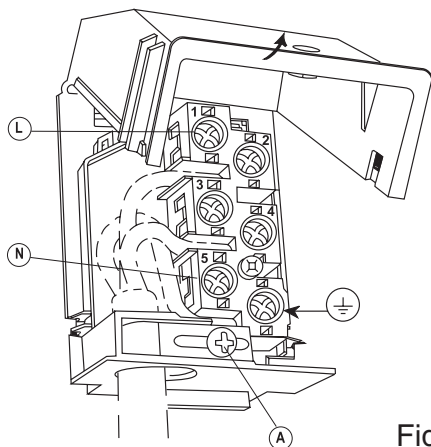

Fig. 16A
Connecting the mains cable (fig. 16A).
- open the box of the supply board (see fig. 16A);